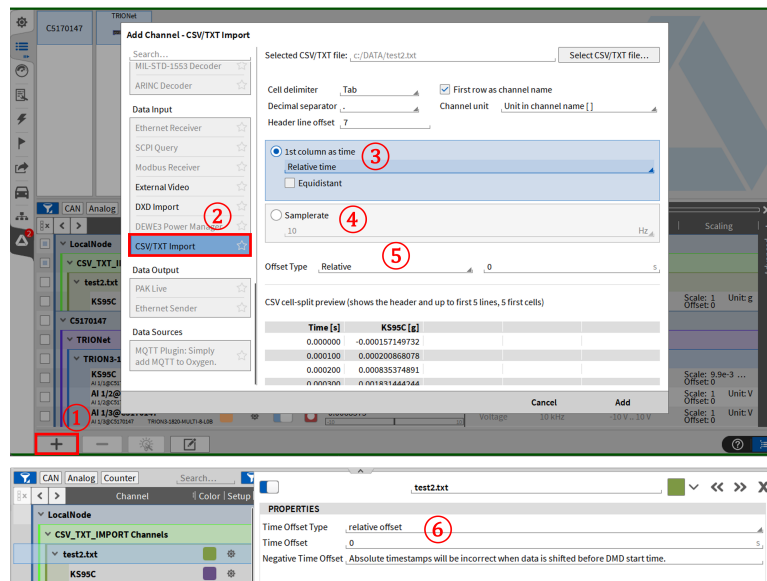

Fig. 7.172: CSV/TXT import
In OXYGEN Viewer it is possible to import CSV or TXT data as a channel. This is only available in PLAY mode (see ① in Fig. 7.172). The first column can be interpreted as relative or absolute time (see ③ in Fig. 7.172). The Equidistant option allows asynchronous data to be read in with a virtual sampling rate. In case no time is included a synchronous sample rate can be defined (see ④ in Fig. 7.172). An optional time offset can be defined before adding the channel (see ⑤ in Fig. 7.172) or subsequently in the properties (see ⑥ in Fig. 7.172). The imported channel can be found in the group CSV_TXT_IMPORT Channels in the channel list.